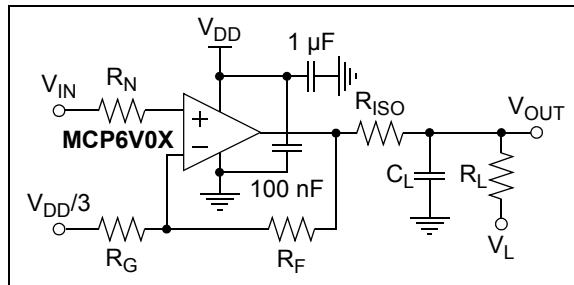
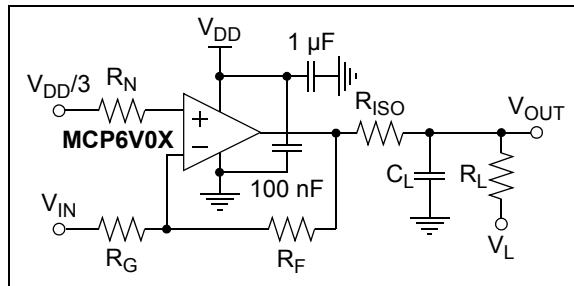

FIGURE 1-5: AC and DC Test Circuit for Most Non-Inverting Gain Conditions.
FIGURE 1-6: AC and DC Test Circuit for Most Inverting Gain Conditions.
Electrical Characteristics: Unless otherwise indicated, $T_A = +25^\circ\text{C}$ , $V_{DD} = +1.8\text{V}$ to $+5.5\text{V}$ , $V_{SS} = \text{GND}$ , $V_{CM} = V_{DD}/3$ , $V_{OUT} = V_{DD}/2$ , $V_L = V_{DD}/2$ , $R_L = 20\text{ k}\Omega$ to $V_L$ , and $CS = \text{GND}$ (refer to <a href="#">Figure 1-5</a> and <a href="#">Figure 1-6</a> ).
Electrical Characteristics: Unless otherwise indicated, $T_A = +25^\circ\text{C}$ , $V_{DD} = +1.8\text{V}$ to $+5.5\text{V}$ , $V_{SS} = \text{GND}$ , $V_{CM} = V_{DD}/3$ , $V_{OUT} = V_{DD}/2$ , $V_L = V_{DD}/2$ , $R_L = 20\text{ k}\Omega$ to $V_L$ , $C_L = 60\text{ pF}$ , and $CS = \text{GND}$ (refer to <a href="#">Figure 1-5</a> and <a href="#">Figure 1-6</a> ).
**Electrical Characteristics:** Unless otherwise indicated,  $T_A = +25^\circ\text{C}$ ,  $V_{DD} = +1.8\text{V}$  to  $+5.5\text{V}$ ,  $V_{SS} = \text{GND}$ ,  $V_{CM} = V_{DD}/3$ ,  $V_{OUT} = V_{DD}/2$ ,  $V_L = V_{DD}/2$ ,  $R_L = 20\text{k}\Omega$  to  $V_L$ ,  $C_L = 60\text{pF}$ , and  $\overline{CS} = \text{GND}$  (refer to Figure 1-5 and Figure 1-6).
The circuits used for the DC and AC tests are shown in Figure 1-5 and Figure 1-6. Lay the bypass capacitors out as discussed in Section 4.3.8 “Supply Bypassing and Filtering”.  $R_N$  is equal to the parallel combination of  $R_F$  and  $R_G$  to minimize bias current effects.